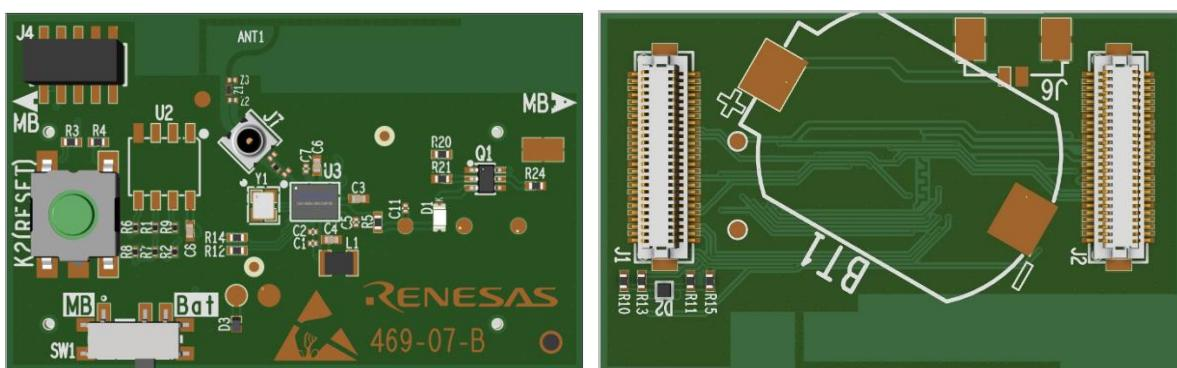

Figure 16. SW1 (left), available battery sockets on the bottom side of the daughterboards (right)
1. supply from LDO on PRO motherboard by setting SW1 to **MB**, see Figure 16,
2. supply directly from Battery by setting SW1 to **Bat** see Figure 16
- a. Place holder for a Coin cell 2016 lithium battery socket (BT1) on the bottom layer of each daughterboard. (Figure 16)